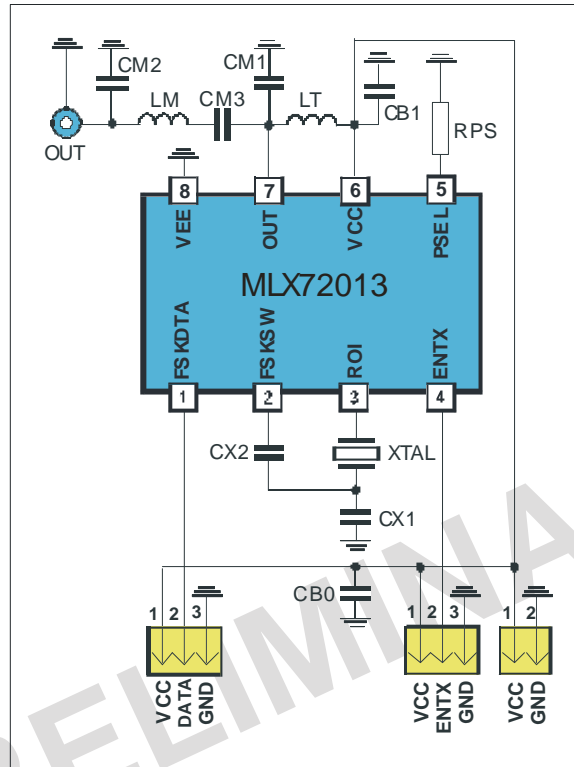

Fig. 6: Test circuit for FSK with 50 Ω matching network
typical values at $T_A = 23\text{ }^\circ\text{C}$ and $V_{CC} = 3.6\text{ V}$; test circuit shown in Fig. 6, $f_c = 433.92\text{ MHz}$
5.1 Test circuit component list to Fig. 6